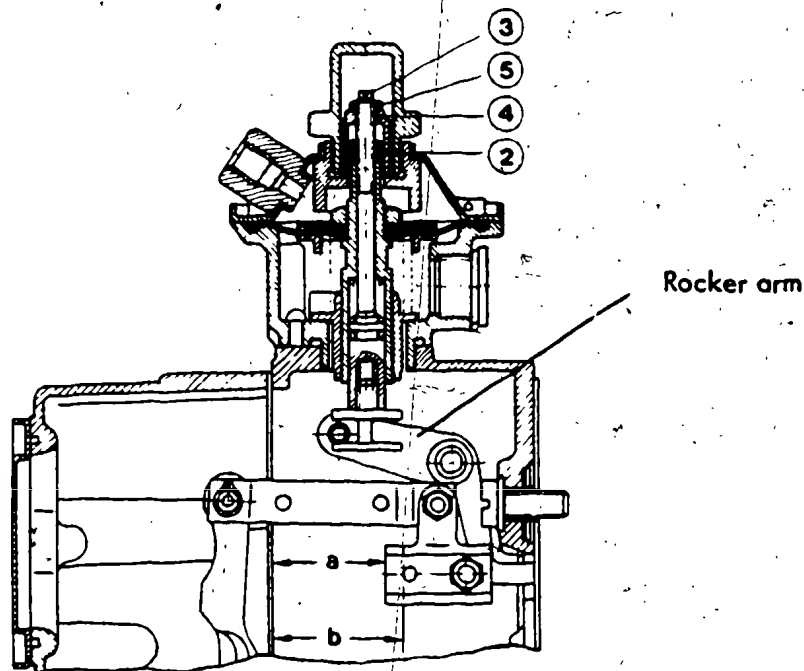

Fig. 2
3. Use a depth gauge to press the control rod up against the rocker arm. Take measurement "a" (fig. 2) and write it down.
4. Loosen the union cap on the manifold-pressure compensator. Push shaft 3 through up to the stop. Take measurement "b" (fig. 2) and write it down.